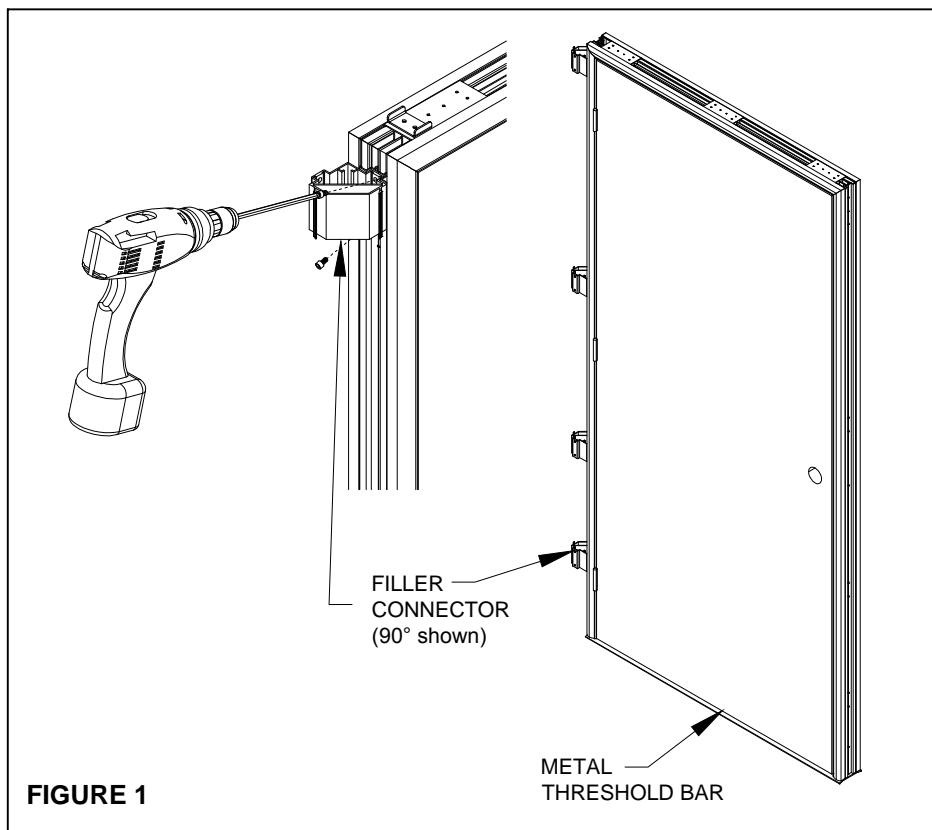

FIGURE 1
1. Make sure door is closed before starting installation, attach the corresponding filler connectors to the side of the door, with 25 mm or 1-inch hex screws, (Figure 1).